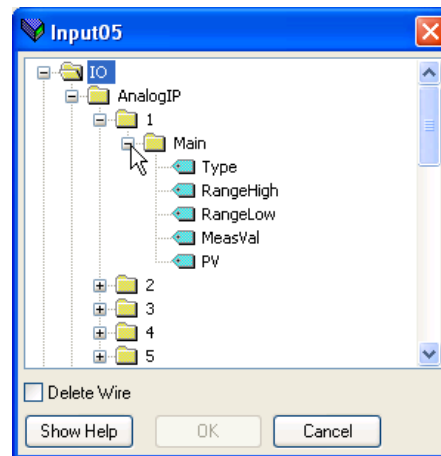

Figure 7.5b Browser window
1. Double click the next available position in the input or output data table and select the variable to assign to it. A pop-up (figure 7.5b) provides a browser from which a list of parameters can be opened.